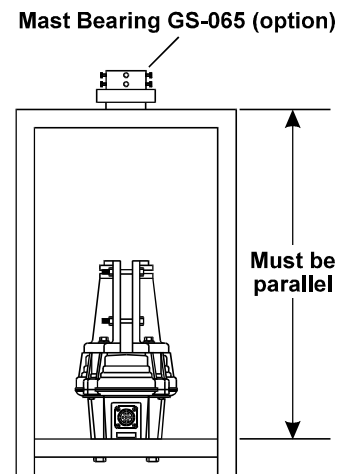

Figure 11
3. If a thrust bearing (such as the optional Yaesu model **GS-065**) is to be utilized, mount it on the top of the tower (see Figure 11) using the supplied hardware.